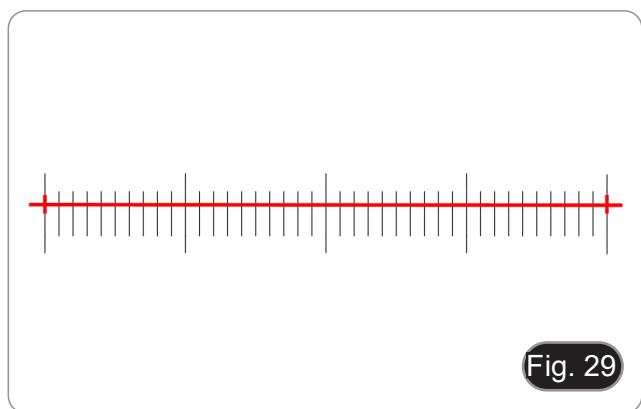

Fig. 29
- The minimum range of the selected micrometer is 0.01 mm (10 micron). Fig.29 shows the image under a 10x objective lens. At this time, the "magnification" is set to "10X", the "unit" is marked as " μm ", and the "length" is set to "40".